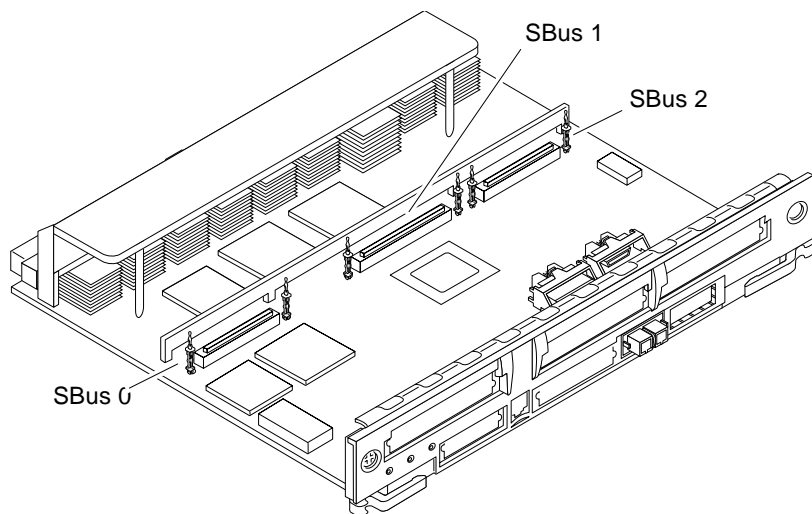

FIGURE 4-12 SBus+ I/O Board SBus Card Connectors
2. Use FIGURE 4-12 to locate the card to be removed.
2. Use FIGURE 4-12 to locate the SBus connector for the card that is to be installed.